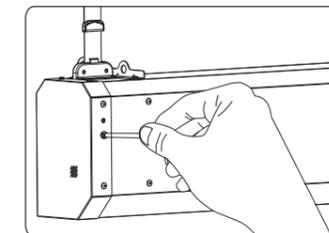

Figure 25
- b. Lower limitation adjusting. Take off the knob from the hole and use the provided allen key to adjust (figure 25). A clockwise adjustment will extend the screen (The distance between the screen and installation position will increase) and a counter-clockwise adjustment will retract the screen (The distance between the screen and installation position will decrease).